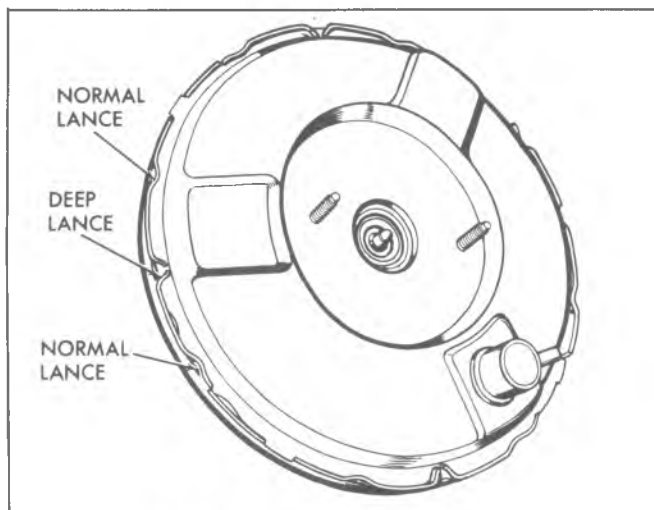

Fig. 5-3D--Lances in Rear Housing
7. The edge of the rear housing contains twelve lances. Four of these lances (one in each quadrant) are deeper than the other lances (fig. 5-3D). The metal that forms the four deep lances must be partially straightened so that the lances will clear the cutouts in the front housing. If the metal tabs that form the deep lances crack or break during straightening, the housing must be replaced.